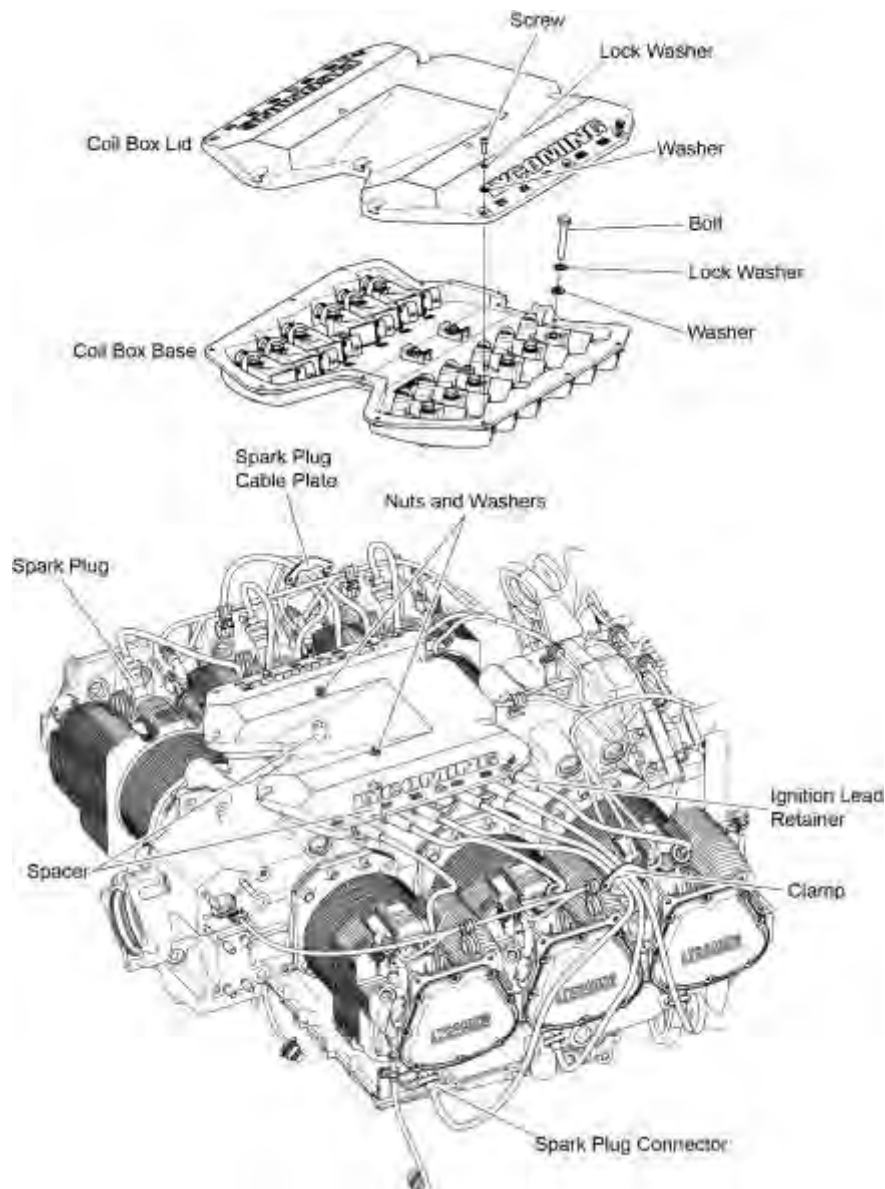

Figure 1
- (1) Remove the 15 screws, washers, and lock washers (Figure 1) from the coil box lid. Discard the lock washers.
- (2) Remove the two nuts and washers from the coil box lid.
- (3) Remove the coil box lid.
- (1) Install the coil box lid (Figure 1) with two nuts and washers and 15 screws each with a washer and new lock washer.
- (2) Torque the screws and nuts to the specified torque limits in the Standard Torque Tables in the latest revision of the **Service Table of Limits - SSP-1776**.